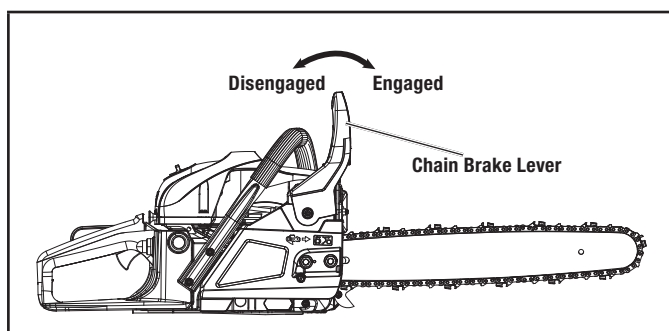

Figure 1
2. Make sure the chain brake lever is pulled back in the disengaged position (Fig. 1).
4. While the chainsaw is running, squeeze the throttle control to 1/3 throttle and then engage the chain brake by pushing the chain brake lever forward with the left hand (Fig. 1). The chain should stop moving abruptly.